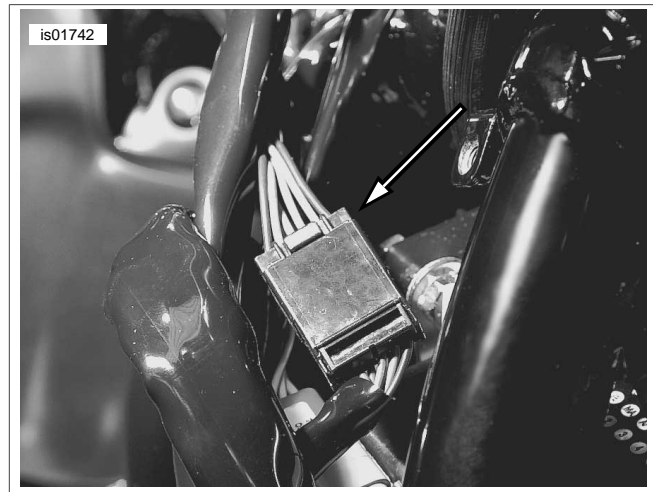

Figure 21. V-Rod Front Turn Signal Connector (2004-Later)
1. *VRSCR Models:* See Figure 21. Remove left side cover following the instructions in the Service Manual.